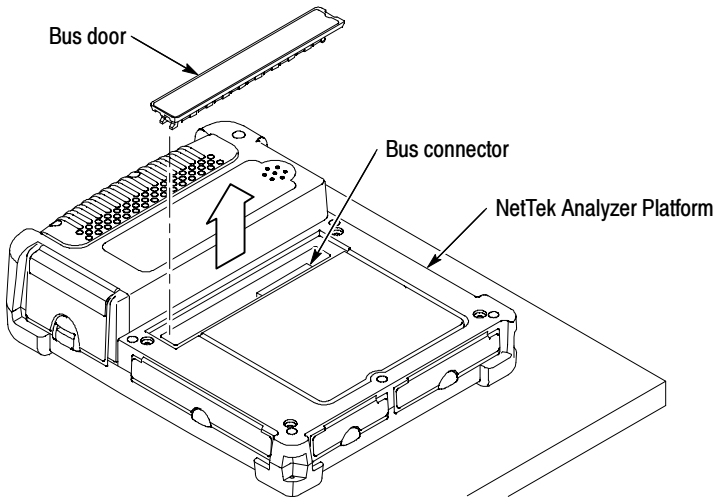

Figure 1-2: Removing the bus door
5. Remove the bus door from the rear of the NetTek Analyzer Platform or instrument module. See Figure 1-2.